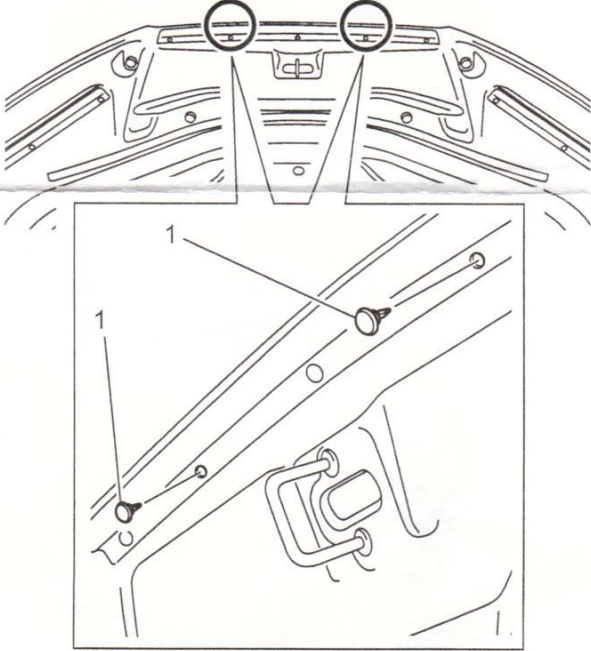

FIGURE 4
- Remove the two plastic bonnet seal retaining clips (1) that correspond to the two Bonnet Protector centre hole locations previously marked in step 3. Refer to figure 4.